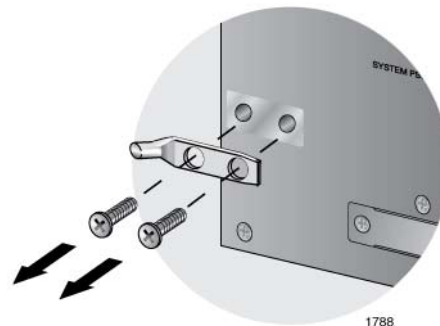

Figure 41. Removing the Grounding Lug
2. Remove the two screws that secure the grounding lug to the rear panel of the chassis, as shown in Figure 41.